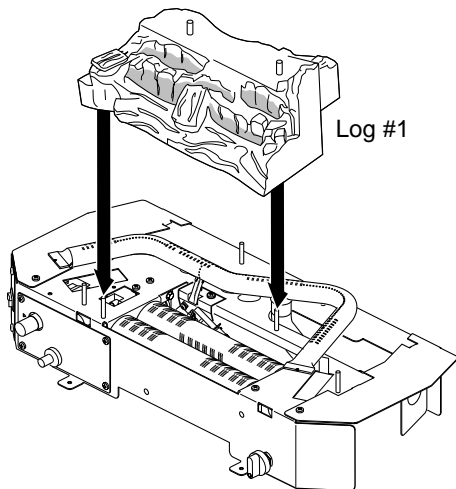

Figure 24 - Installing Log #1 (Ember Bed)
1. Place log #1 (ember bed) onto base over log alignment screws to the left of front burner and behind middle burner. Log #1 will sit on top of front and middle burners (see Figure 24).